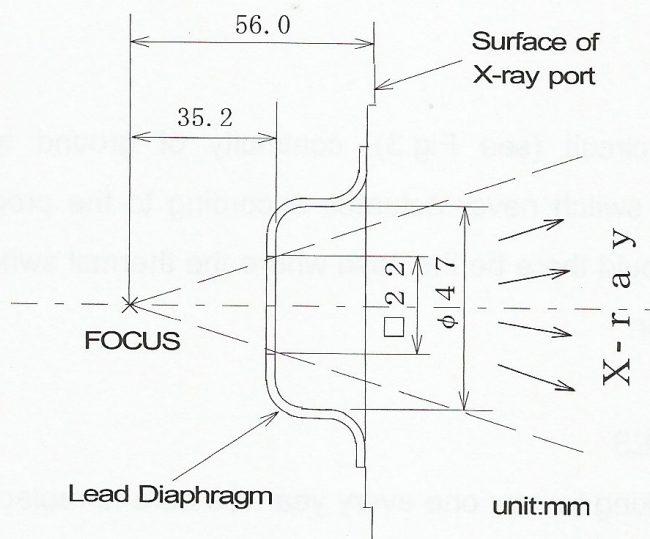

Fig.6. LEAD DIAPHRAGM
- (a) Lead Diaphragm is mounted in X-ray port to limit X-ray field. Remodeling of its hole or changing to another hole cause lack of radiation field or increase of leakage radiation. Don't exchange the part that Shimadzu doesn't designate. Refer to the Fig.6.